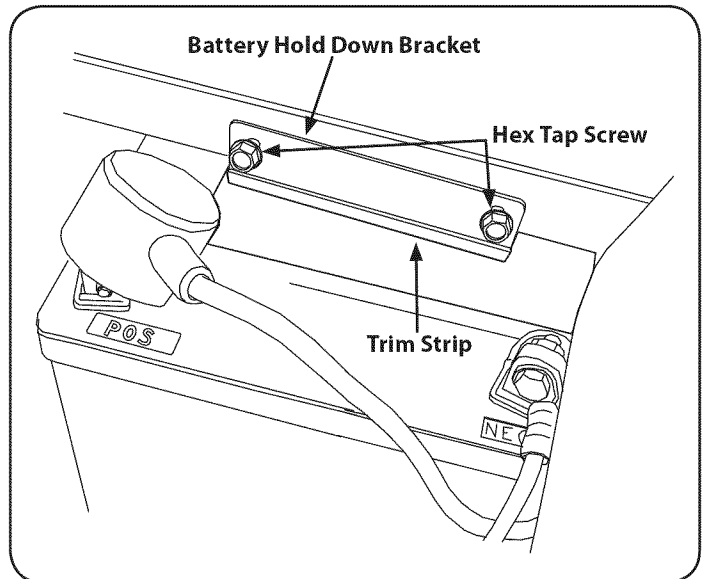

Figure 28
1. Remove the two hex tapping screws from the battery hold-down bracket and remove the bracket. Use care to avoid losing the trim strip from the bottom of the bracket. See Figure 28.